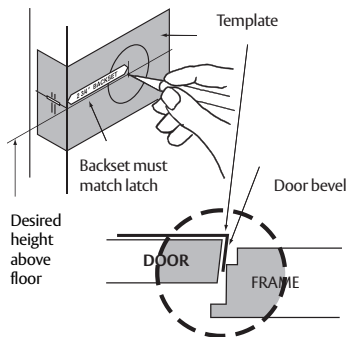

Figure 1
1. Use template FM567 to mark the door (See Figure 1).